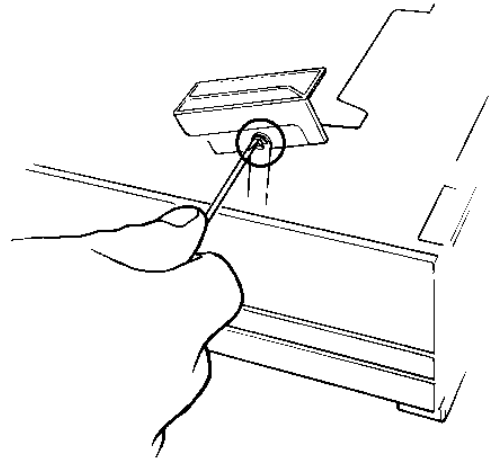

Fig. 3.5 Removing the circlip on the locking arm
2. Remove the circlip on the locking arm, see Fig. 3.5.